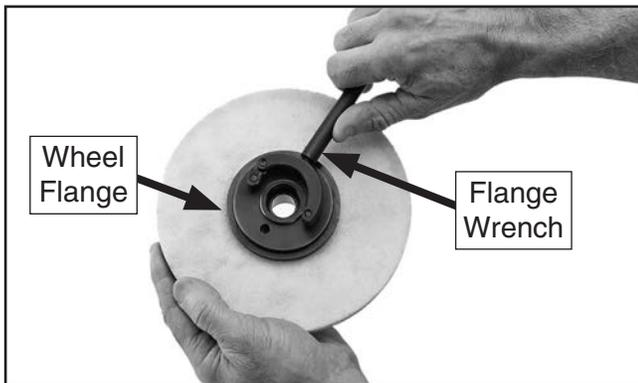

Figure 34. Threading wheel flange onto wheel sleeve.
3. Thread wheel flange onto sleeve then tighten it with wheel flange wrench until it is snug (see **Figure 34**)—overtightening may crack wheel.